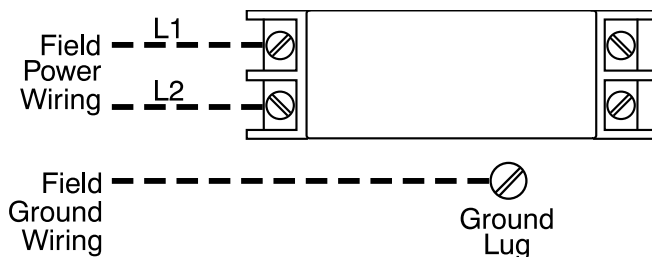
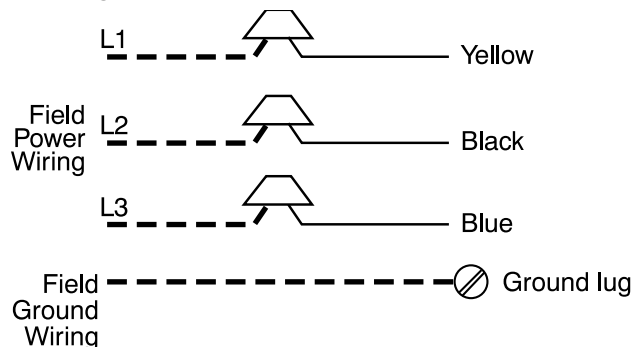
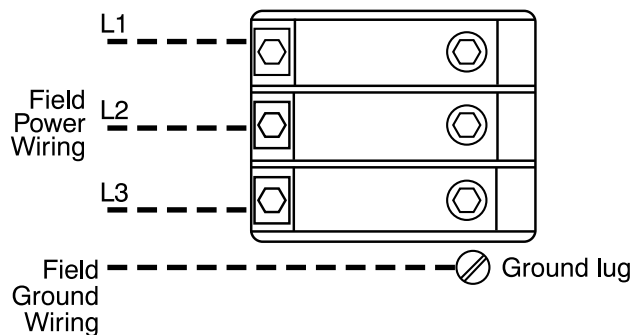

Fig. 7 – 3, 5, 8, 9 10 kW Non-fused Heaters (9 kW is field convertible to 3-phase. See \(Power Connections on p6\).
Fig. 11 – 15 kW 3-Phase Heater
Fig. 12 – 18 kW 3-Phase Heater
1. Unprotected heaters: See Fig. 7, Fig. 11, and Fig. 12.